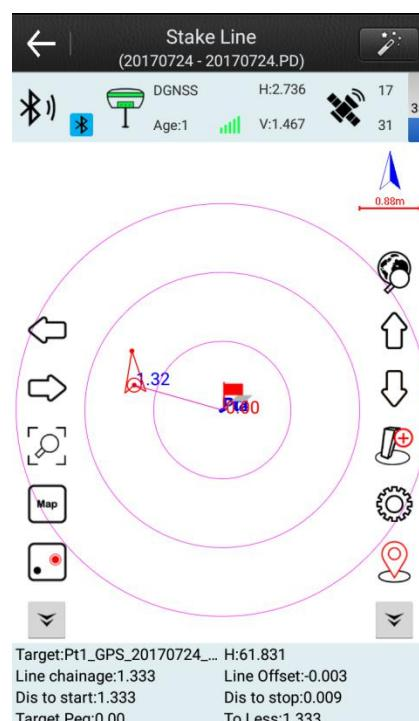

Figure5-20
6. If you need to add a stake to the line during the staking process, click "stakes" to set the stake mode and Position, then click "OK" to pop up the result dialog box. Click "Stakeout" to enter the stakeout interface, as shown in Figure 5-20. Then you can stake out according to the prompts in the bottom status bar, when the distance between stakeout point and current point is less than 3 meters, taking stake point as the center and generating prompt circles to get into the precise staking.